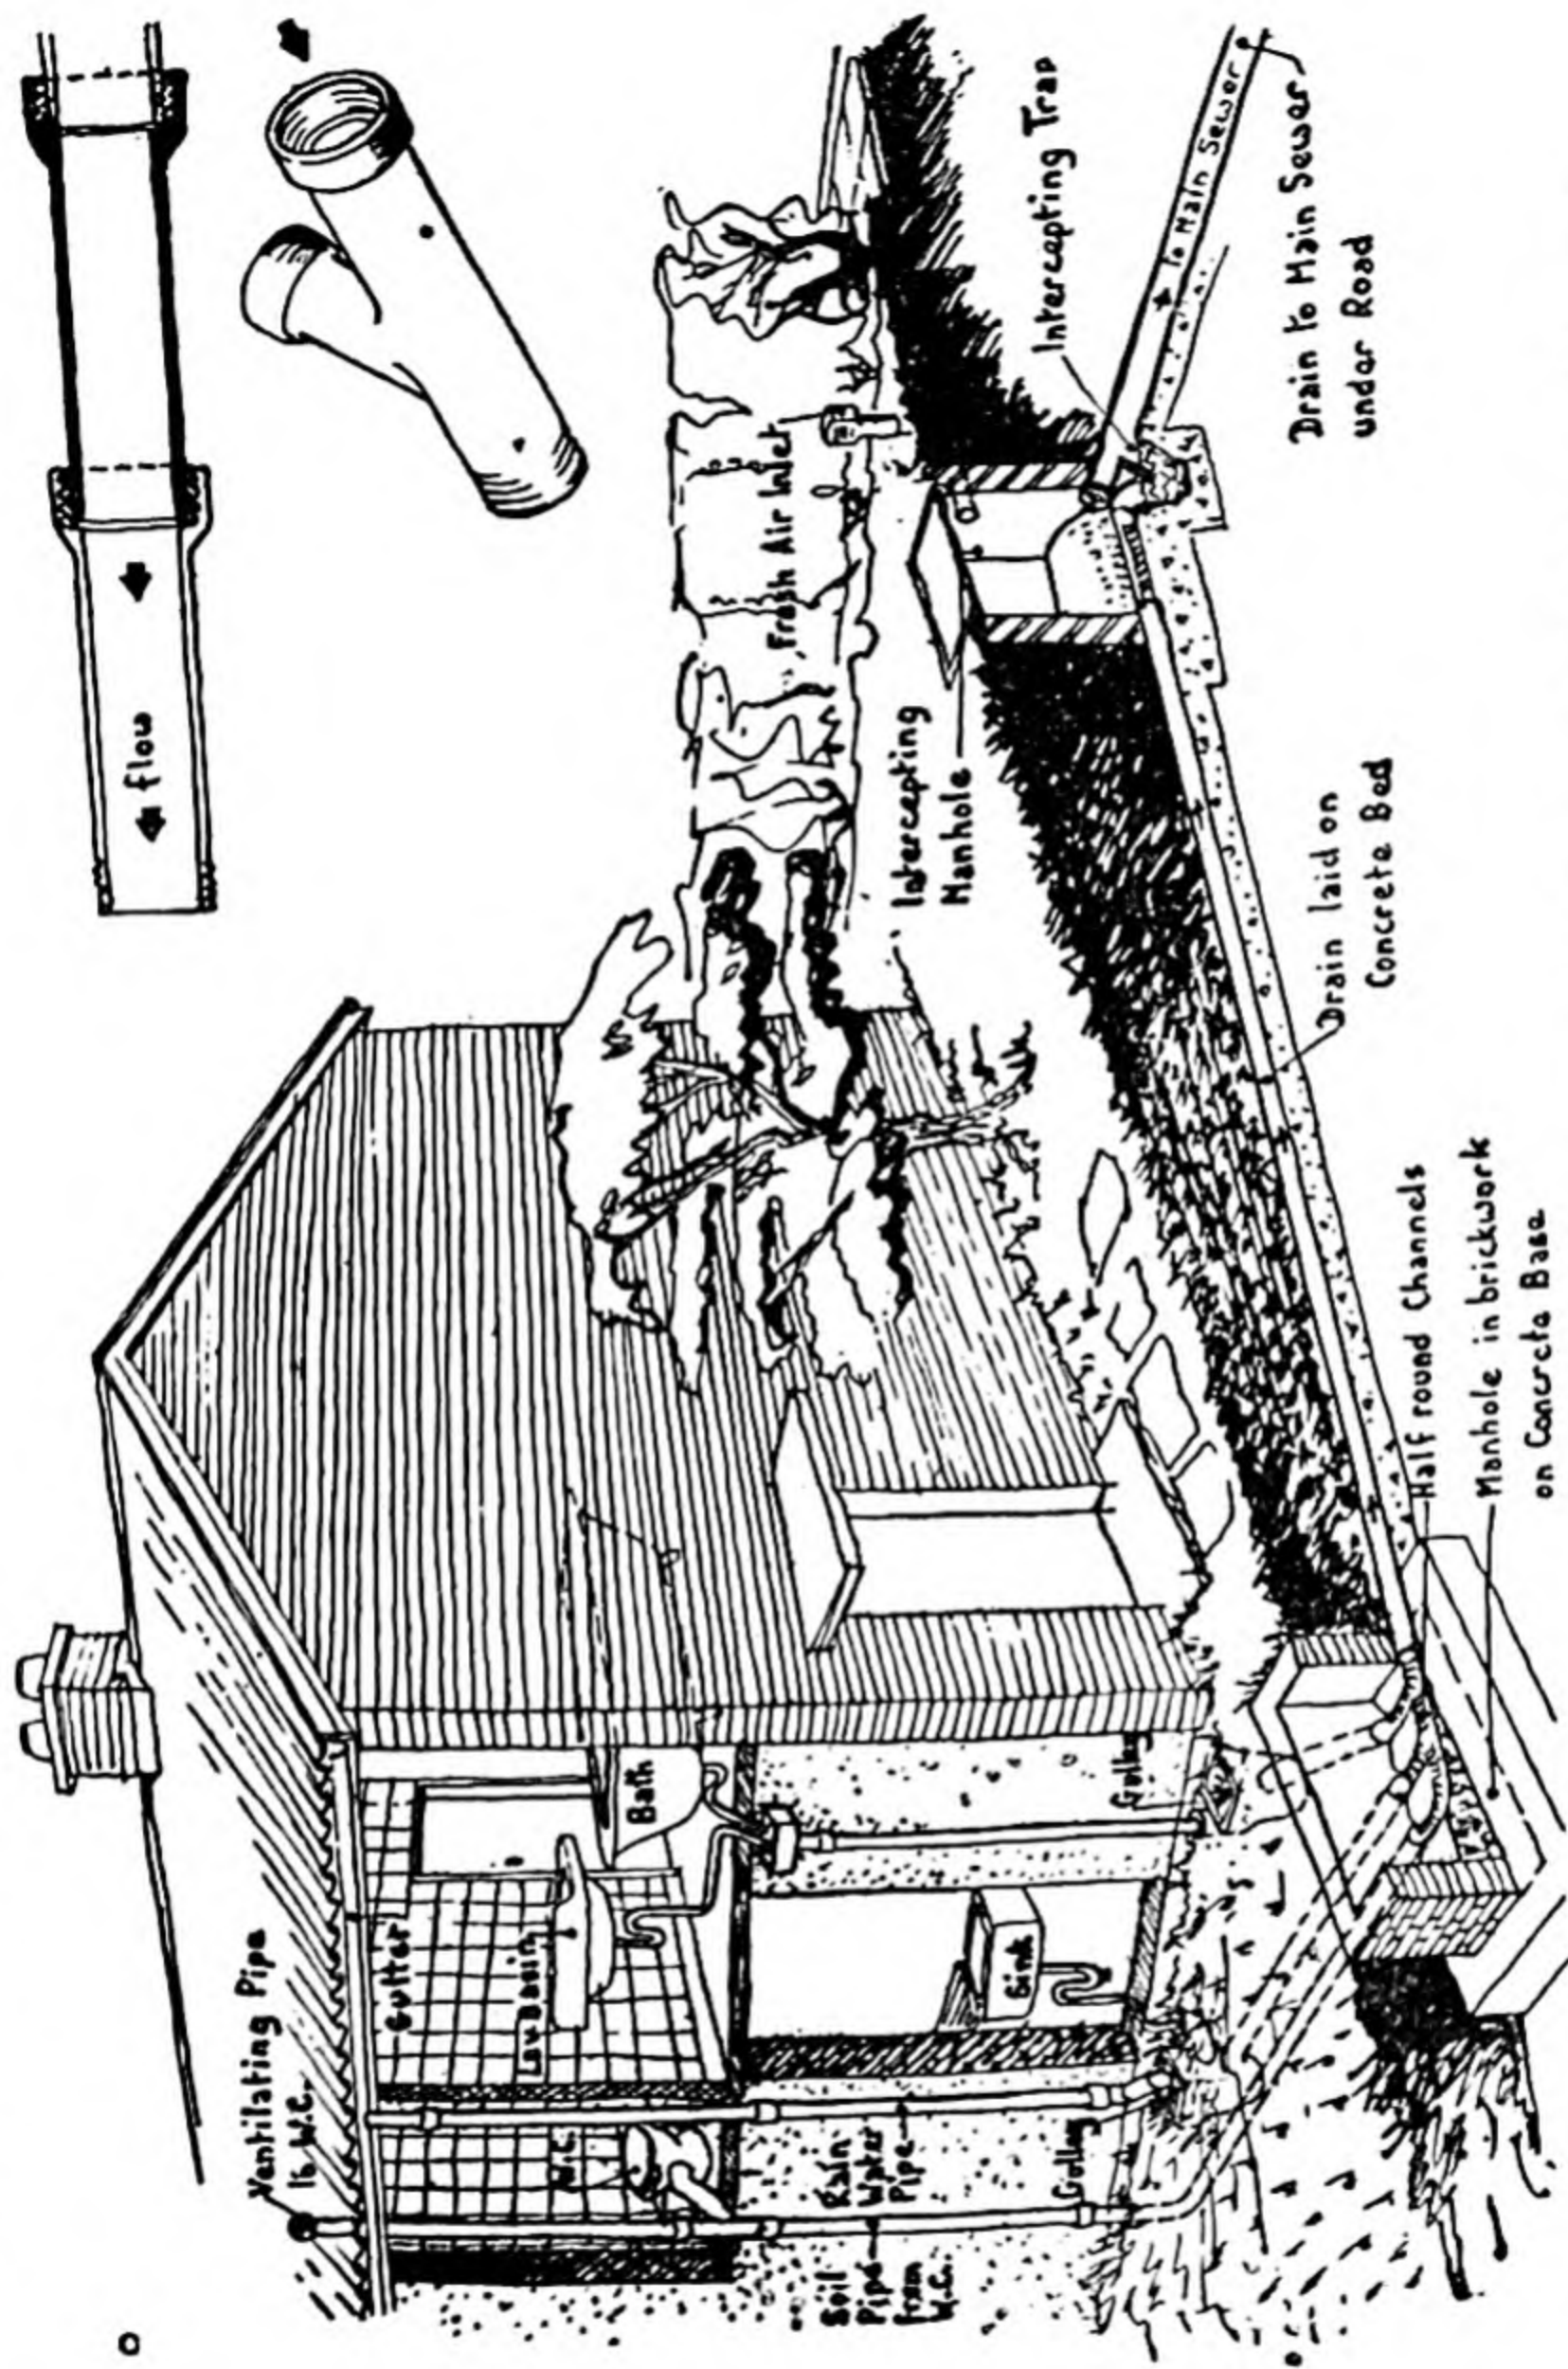

Fig. 5. HOW THE HOUSE DRAINS CONNECT WITH THE SEWERS. Showing manholes and trap, and *top right*: How drain pipes are laid.
*Drains* are the pipes which convey waste water and sewage from each house, and are the property and responsibility of the occupier or house owner. The pipes are made of glazed earthenware in short lengths, one pipe fitting into the socket end of the next pipe in such a way that it can be cemented carefully into place and made watertight. The diameter of the pipe for an ordinary house should be 4 in., ensuring a rapid flow of water, which tends to stagnate if the pipes are too wide. The socket end of the pipe should be directed towards the flow of sewage and the pipes should be laid in as straight a line as possible with a fall of 1 ft. in 40 to 60 feet. They are placed in a trench and should be laid on a bed of concrete, unless the soil is so solid that there is no danger of subsidence when the earth is replaced. Any junction of drainpipes should be made in a V shape in one piece and not at right angles, so that water enters the drain obliquely. Before the house drain meets the sewer, it is once more trapped and inspection pipes and covers are arranged. (See Fig. 5.)